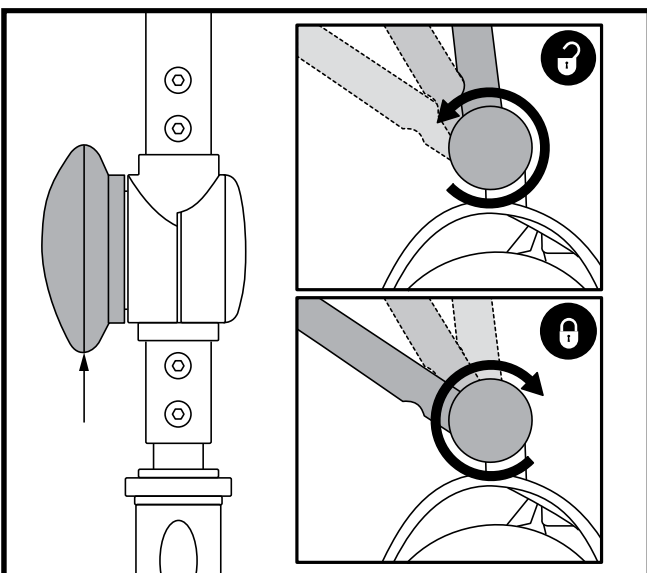

Figure 24. Tiller Adjustment Knob
TILLER ANGLE ADJUSTMENT (See figure 24)
1. With the seat and battery pack removed (see Disassembly Procedures on previous page), lower the tiller and tighten the tiller adjustment knob. See **figure 24**.
3. Raise the tiller and fully tighten the tiller adjustment knob. See **figure 24**.